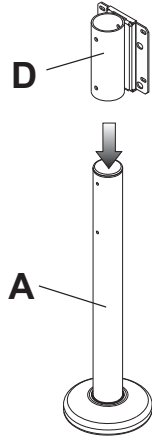
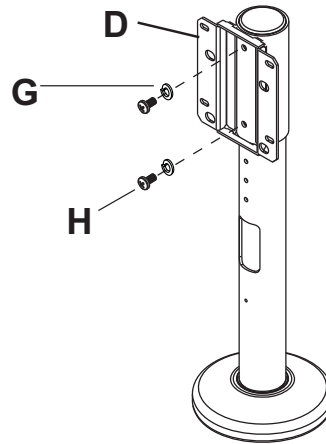

fig. 7.1
fig. 7.2
Adapter plate support box (D) is adjustable up to 6" at 1" increments. Attach adapter plate support box (D) to support tube (A) as shown in fig 7.1, then fasten two 1/4-20 x 1/2" phillips screws (H) and two split washers (G) through adapter plate support box (D) and support tube (A), as shown in fig. 7.2.